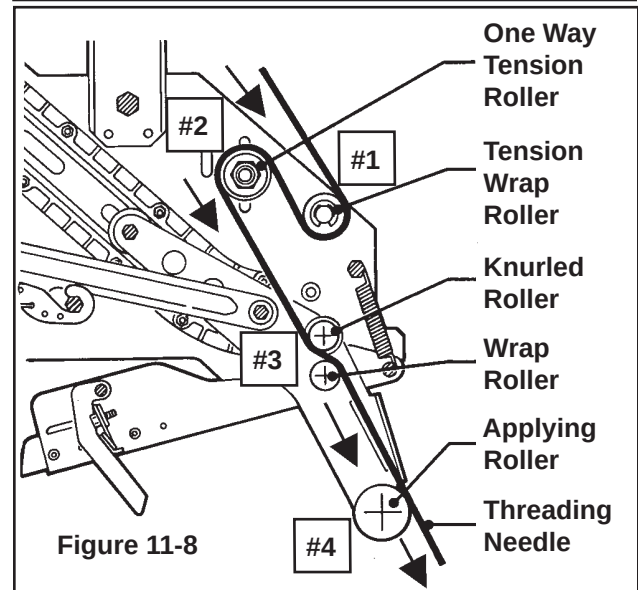

Figure 11-8
- Put a tape roll on the drum and thread the tape through the unit as shown on the label in the same manner as for the top unit (**Figure 11-8**).